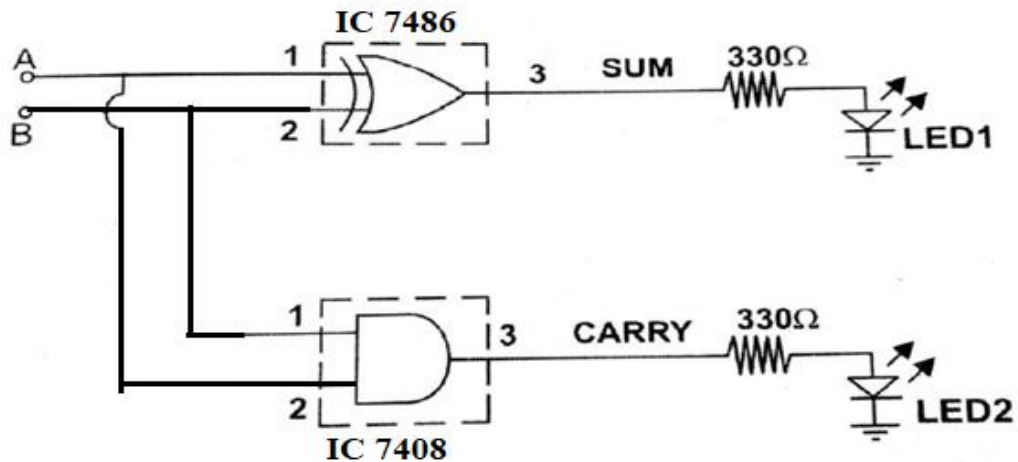
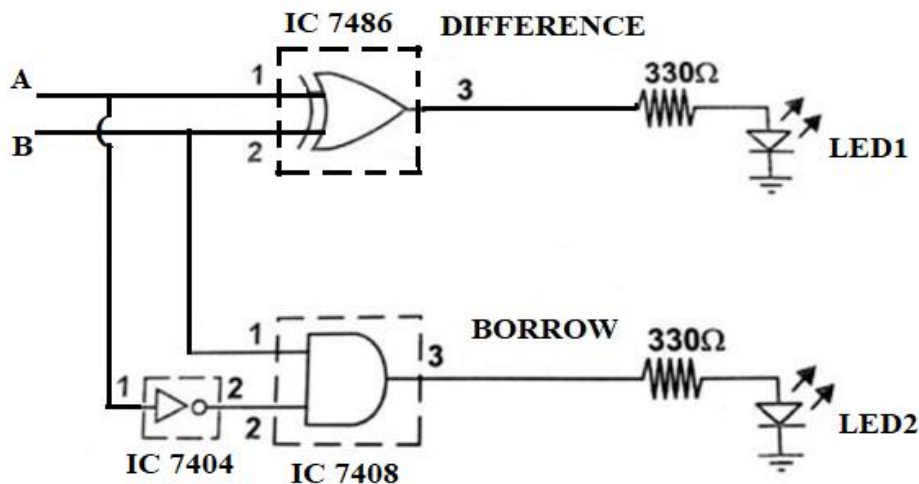

Figure 4.5 Half-adder circuit
Figure 4.6 Half-subtractor circuit
5. Make the connections as per the circuit diagram given in Figure 4.5 for Half adder and figure 4.6 for Half subtractor respectively.